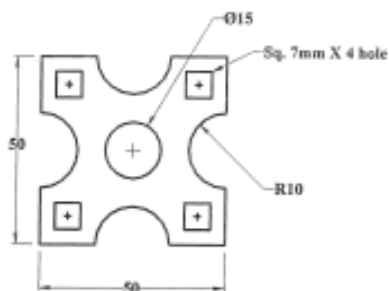

Fig: 4
5. Design a progressive die for the component shown in Figure 4
- i) Draw strip layout that explain the operation to be performed on the strip to get component as shown in fig. 4.
6. a) What is pilot ? What are the types of pilots ? How it is selected for the component in fig. 4 ? And how it will be fitted in press tool explain with neat sketch.